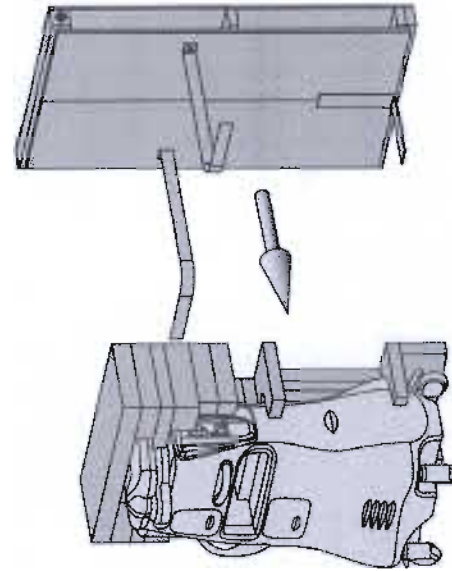

Figure 1-4 Roll the system away from the container.
4. Remove the velcro straps to release the console, then roll the system away from the container (see Figure 1-4). Remove all remaining foam and the plastic protective cover.